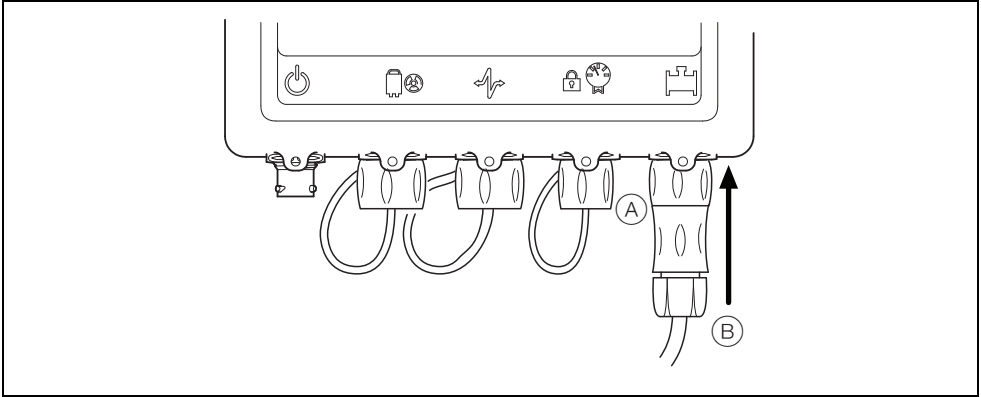

Fig. 3.5 Sensor Connections
Referring to Fig. 3.5:
- Remote Sensor Connector (Fig 3.5, page 18)
For MID remote sensor type flowmeters it is also essential, and a legal requirement, to fit a suitable anti-tamper seal, as illustrated in Section 3.2.2 to the sensor connector illustrated in Fig 3.5, page 18.